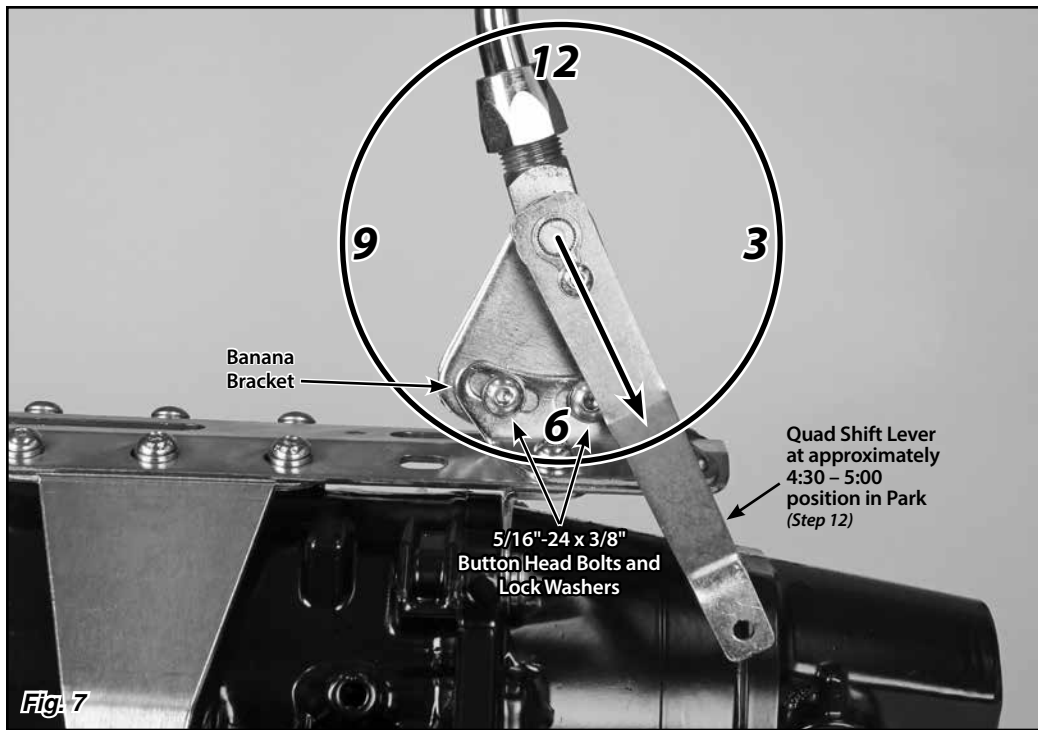

Fig. 7
Step 11: Make sure the two 5/16"-24 x 3/8" button head bolts and lock washers that attach the driver side banana bracket to the shifter assembly (in the curved, slotted holes) are tight. Before tightening the shifter assembly down to the main plate, move the shifter lever through all of the gear positions. Make sure that the shifter lever and knob do not come in contact with the dash or the seat. The shifter assembly can be tilted forward or backward if needed by loosening the 5/16"-24 x 3/8" button head bolts and lock washers in the curved, slotted holes in the driver side banana bracket. **Fig. 7**
Step 12: Make sure the shifter lever is in the Park position. Temporarily place the quad shift lever in position on the quad lever bushing as shown in **Fig. 7**. Check for interference with the vehicle floor. With the shifter lever in Park, you want the quad shift lever to be at approximately the 4:30 – 5:00 position.
Double check to make sure that the bolts connecting the **driver** side banana bracket to the shifter assembly are tight. **Fig. 7**